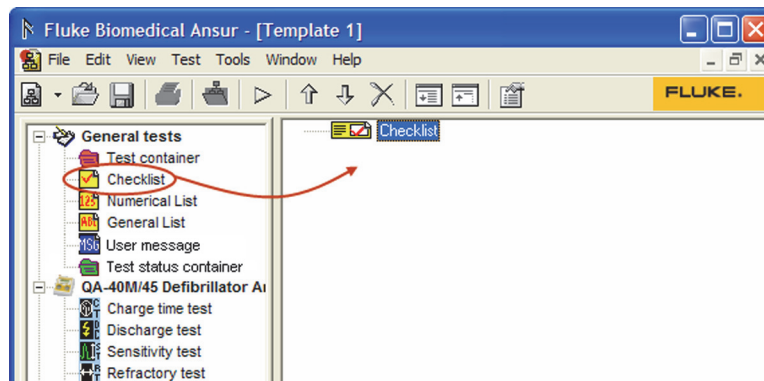

Figure 3-24. Creating a Checklist
4. Without releasing the mouse button, drag the test element onto the blank test template. The test element is highlighted, and the mouse pointer changes to a drop cursor. See Figure 3-24.